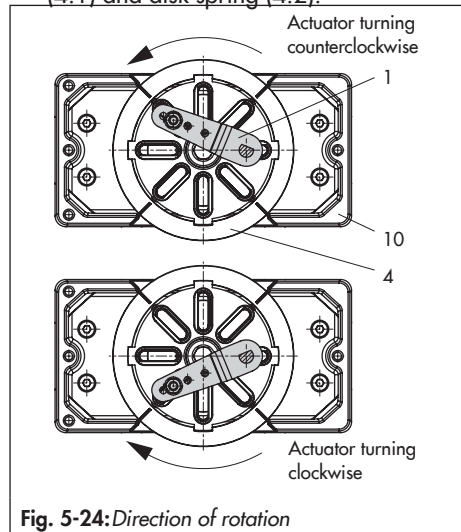

Fig. 5-24: Direction of rotation
- Unscrew the standard follower pin (2) from the positioner's M lever (1). Attach the follower pin ($\varnothing 5$ mm) included in the mounting kit to pin position 90° .
- Mount connecting plate (6) for required G $\frac{1}{4}$ connecting thread or pressure gauge bracket (7) with pressure gauges on the positioner. Make sure that the two seals (6.1) are seated properly. Double-acting springless rotary actuators require the use of a reversing amplifier on the connection side of the positioner housing (see section 5.6.7).
- Place positioner on housing (10) and screw it tight. Taking the actuator's direction of rotation into account, adjust lever (1) so that it engages in the correct slot with its follower pin (Fig. 5-24).